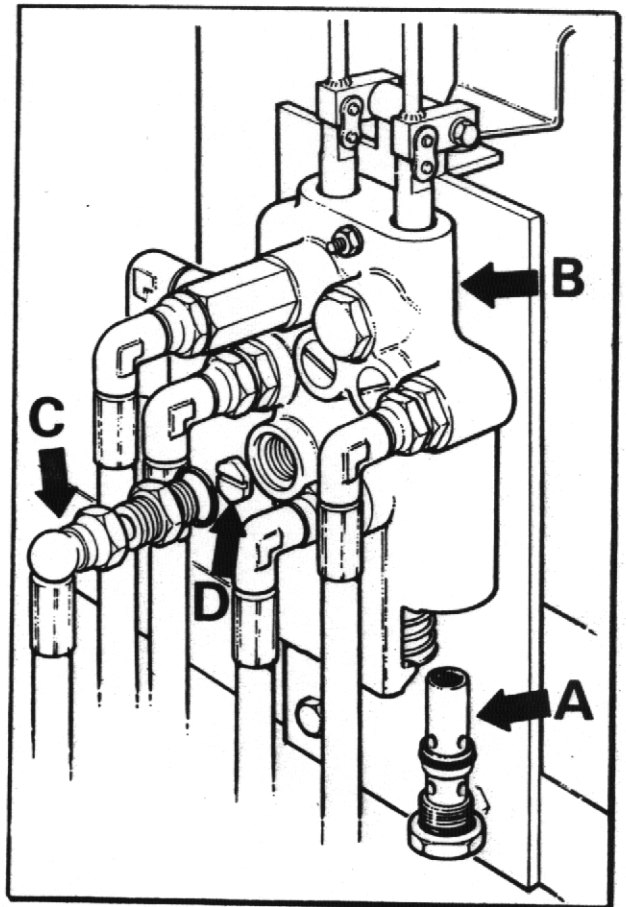

FIG.7
3. Attach bleeder tube (A) (See figs. 7 & 8) to the bleed screw (B) on front axle and immerse other end in a small quantity of hydraulic oil contained in a glass jar (C). Slacken bleed screw and operate brake pedal up and down to its full stroke, until oil pumped into the jar contains no air bubbles. Hold down pedal and close bleed screw. Remove bleeder tube and release pedal.
4. Remove relief valve cartridge (A) (hexagon head) from the bottom of the control valve (B) (See Fig. 7) and replace with a new one.
5. Remove hose adaptor (C) from control valve (See Fig. 7), remove hexagonal orifice plate (D) and wash in white spirit. Dry using moisture-free compressed air. DO NOT poke wire etc., into the orifice. Re-fit plate and hose adaptor with slot of orifice plate facing outwards.